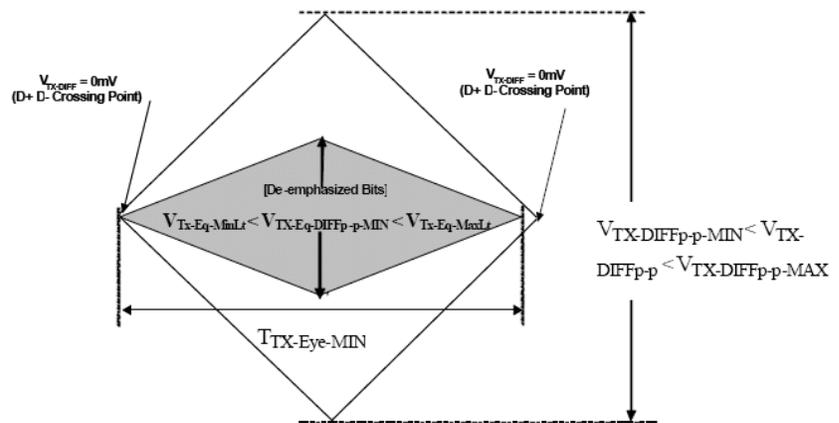

Figure 2: AMB TX Output Eye Specification
Figures 2 and 3 are taken from the AMB Reference Specification[3] available at the time of writing. The diagrams show the eye specification, or eye mask, for the electrical signals, for both input (RX) and output (TX). These apply to any lane, operating northward or southward.